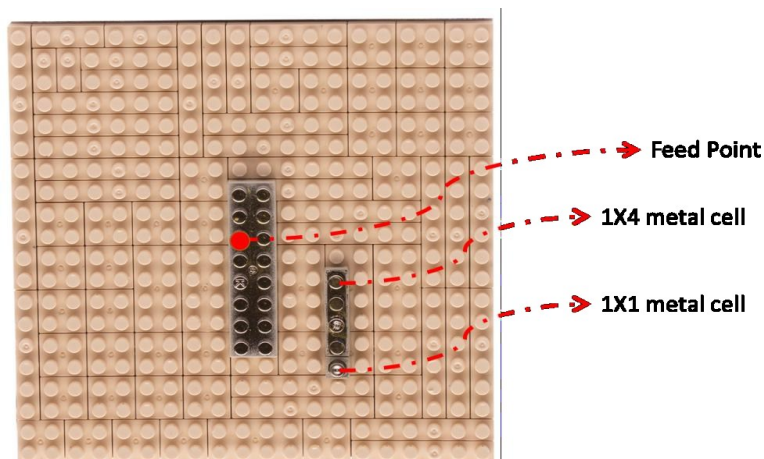

Figure 10 Feed metal cell and 1X4 and 1X1 cell location for this experiment
9. Locate the feed metal cell. The red point shows the feed point for this experiment. Locate the third cylinder of the feed metal cell over the inner conductor of the connector as in Figure 10. Locate 1X4 and 1X1 metal cells as in the figure. Do not dismount them during the antenna design.